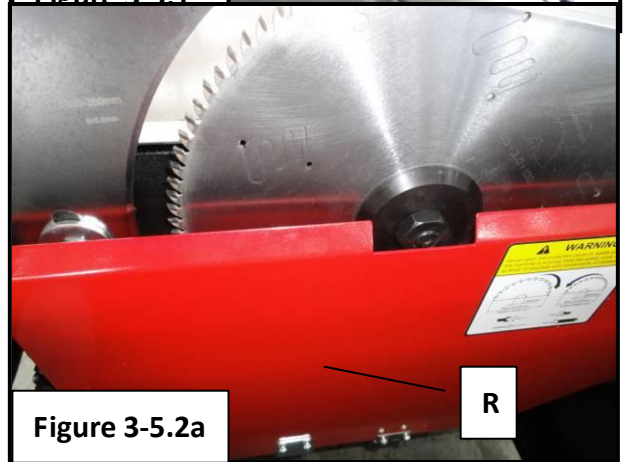
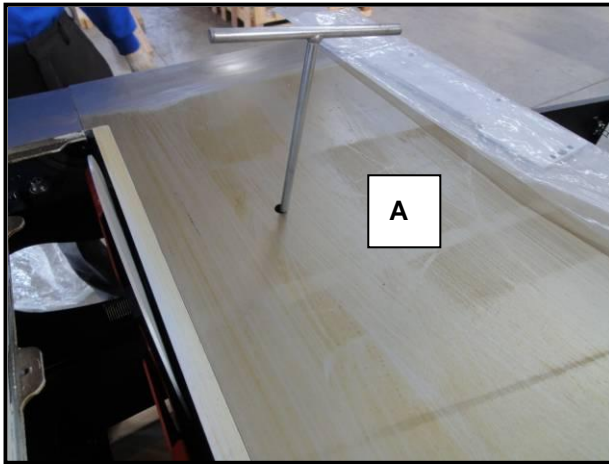
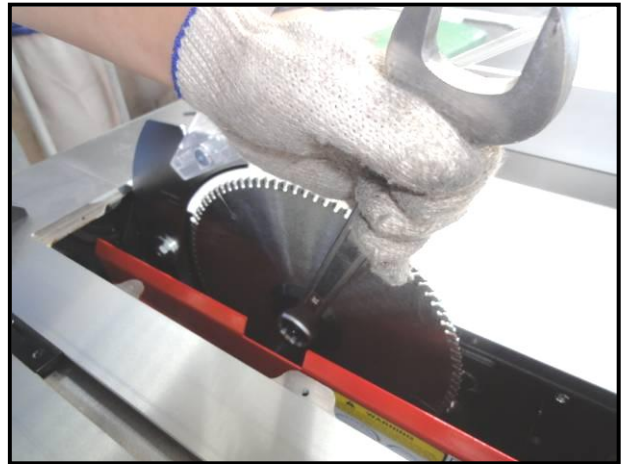
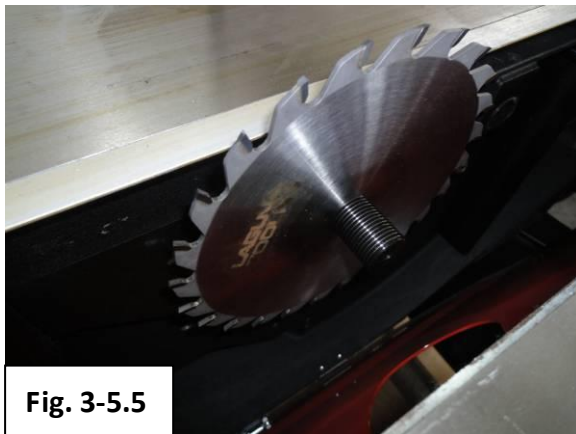

Figure 3-5.2a
Figure 3-5.3
Figure 3-5.4
Fig. 3-5.5
4. Open the red cover, R (Fig. 3-5.2a).
5. Insert the T-wrench to hole **A** (Fig. 3-5.3) to lock the main saw spindle. Then use wrench to loose the nut and washer, remove the saw blade (Fig. 3-5.4) and fit the new saw blade.
6. Tighten the nut and washer (Fig. 3-5.4) and close the red cover R (Fig. 3-5.2a).
4. Open the red cover, (Fig. 3-5.2a).
5. Insert the T-wrench to hole **A** (Fig. 3-5.3) to lock the main saw spindle. Then use wrench to loose the nut and washer then fit the 1st blade (Fig. 3-5.5)
3. Open the red cover **R** (Fig. 3-5.2a).
8. Take the wrench out and close the red cover (Fig. 3-5.2a)